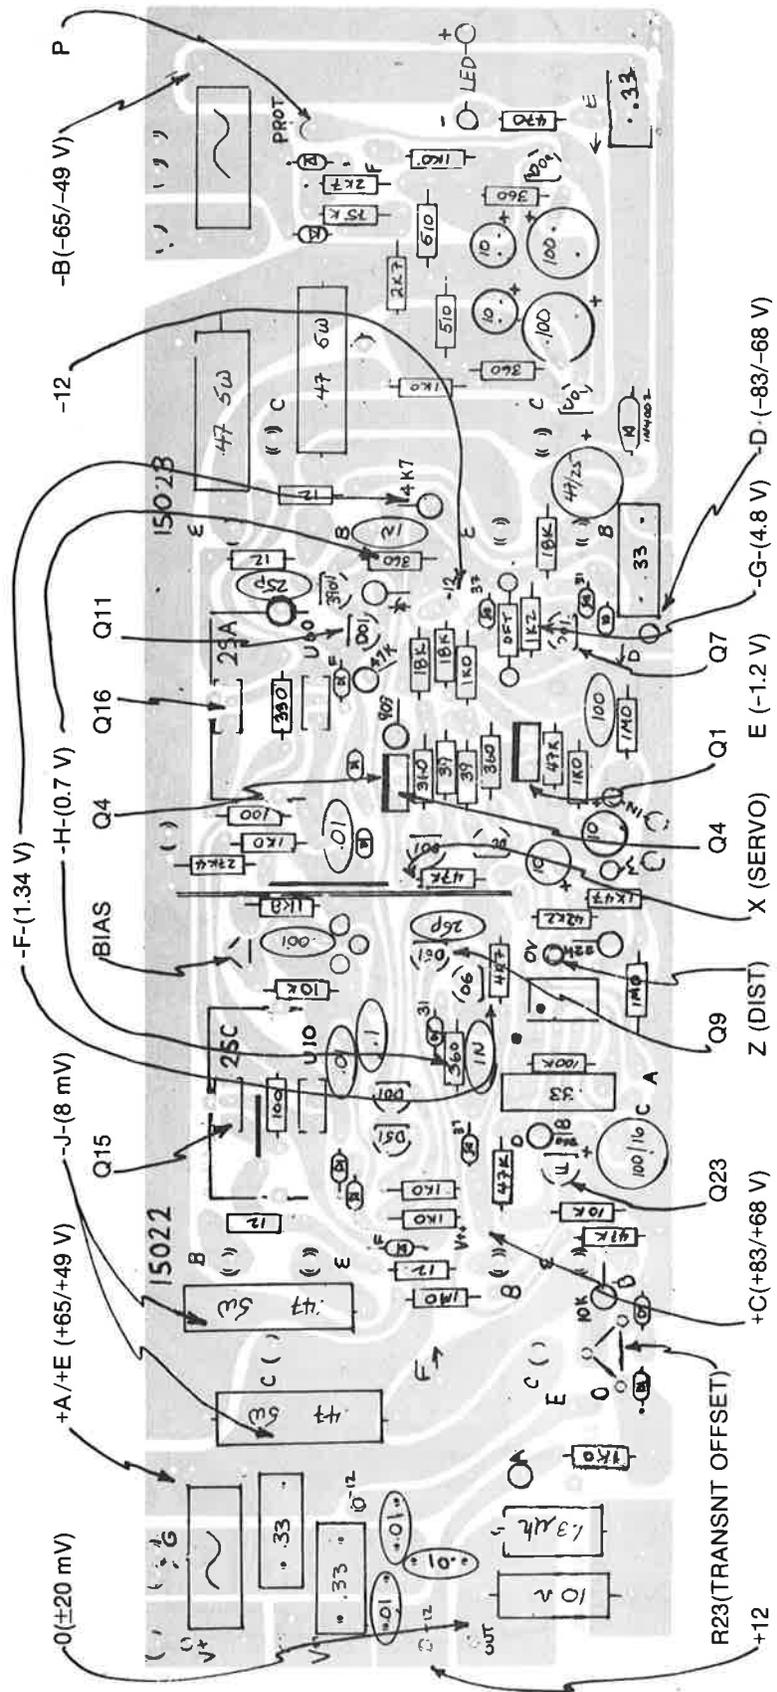

Fig. 9-1. Power Amp Circuit Board, Component Side, Rev 1-2 (Early Units Only).
**7.4 Amplifier Section.** In general, failure of a resistor or semiconductor will produce a dc offset, and identification of abnormal dc levels or currents is the most important troubleshooting procedure. The dc servo, IC1, should be disconnected at point X (Figs. 9-1 and 9-2) when you are checking dc levels.
- 10.3 Power and Relay.** Set the autotransformer to 0.0 Vac and turn it on. Apply a 2 kHz, 0.325 Vac signal to the input and bring up the autotransformer voltage slowly. The current will peak each time the voltage is advanced, settling to less than 300 mA. If it remains above this level, and the amplifier otherwise appears to be working normally, reduce the bias current by turning the bias trimmers (see Fig. 9-1 or Fig. 9-2) counter-clockwise. At some point between 30 and 60 Vac the signal should appear abruptly. By 70 Vac all signs of oscillation should be gone; by 90 Vac the relay should pull in.